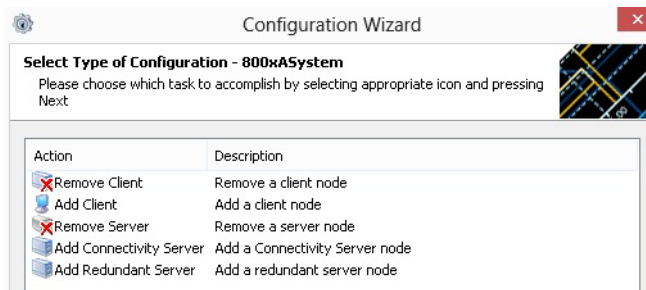

Figure 22. Nodes Administration Dialog Box
2. Select **Remove Client**, see Figure 22, and click **Next**.